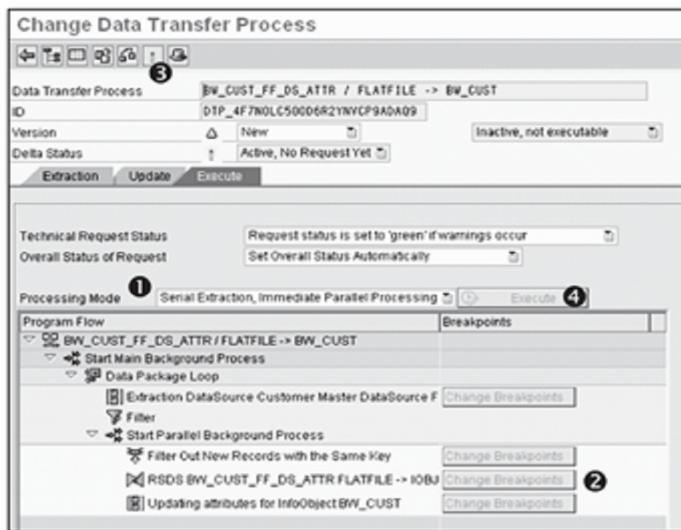
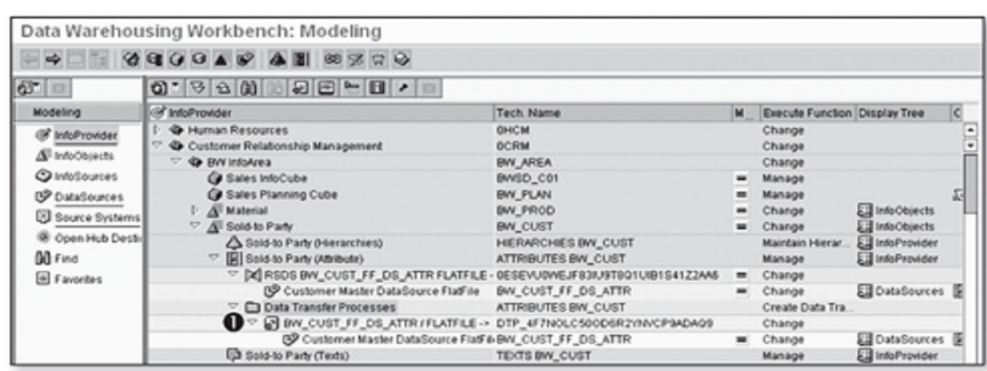

Figure 7.28 Change Data Transfer Process: Execute Tab
Figure 7.29 Newly Created DTP
Now click on the Execute tab. This tab offers various processing modes, as shown in ❶ of Figure 7.28.
- ▶ **Serial in Dialog Process (For Debugging):** This kind of processing is used by developers to debug transformations. As shown in ❷ of Figure 7.28, different breakpoints are available. You can select them based on your requirements and select particular records for debugging.
For our example, use the default settings shown in Figure 7.28. Activate your DTP using the Activate icon.
The Execute icon (❶ of Figure 7.28) is only available after activation of the DTP. At this point, however, we don't want to execute the DTP because we haven't yet extracted the data from the source system. (To do this, we must create an InfoPackage for our BW_CUST_FF_DS_ATTR DataSource; we discuss this process next.) Using the Back icon, return to the DWW main screen. You can now see that the DTP created between DataSource BW_CUST_FF_DS_ATTR and data target BW_CUST (attribute) is available (❶ of Figure 7.29).